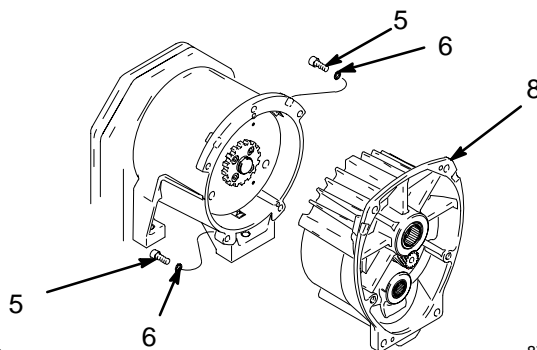

Fig. 6 8740A
3. Fig. 6. Remove five screws (5) and lockwashers (6) and pinion assembly (8).